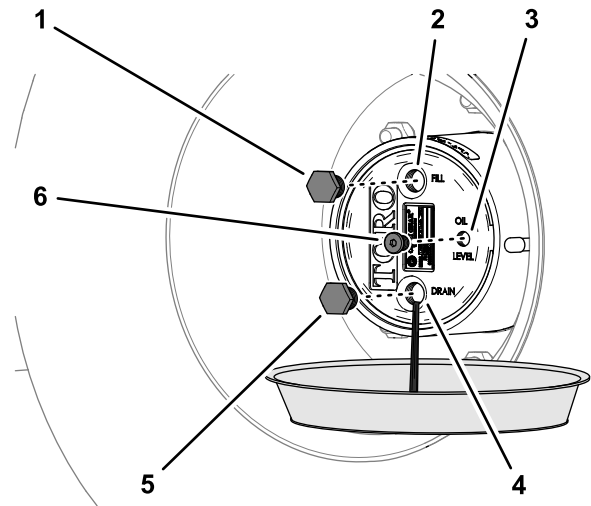

**Figure 95**
4. If the lubricant level is low, remove the fill plug and add the specified lubricant until it begins to flow out of the check-plug hole (Figure 95); refer to Planetary-Gear-Drive Lubricant Specification (page 67).
6. Install the fill plug and the check plug (Figure 95).
1. Through the fill-plug hole, slowly add the specified gear lubricant; refer to Figure 95 in Checking the Planetary-Gear-Drive Lubricant \(page 67\).
3. Install the fill plug and check plug; refer to Figure 95 in Checking the Planetary-Gear-Drive Lubricant \(page 67\).